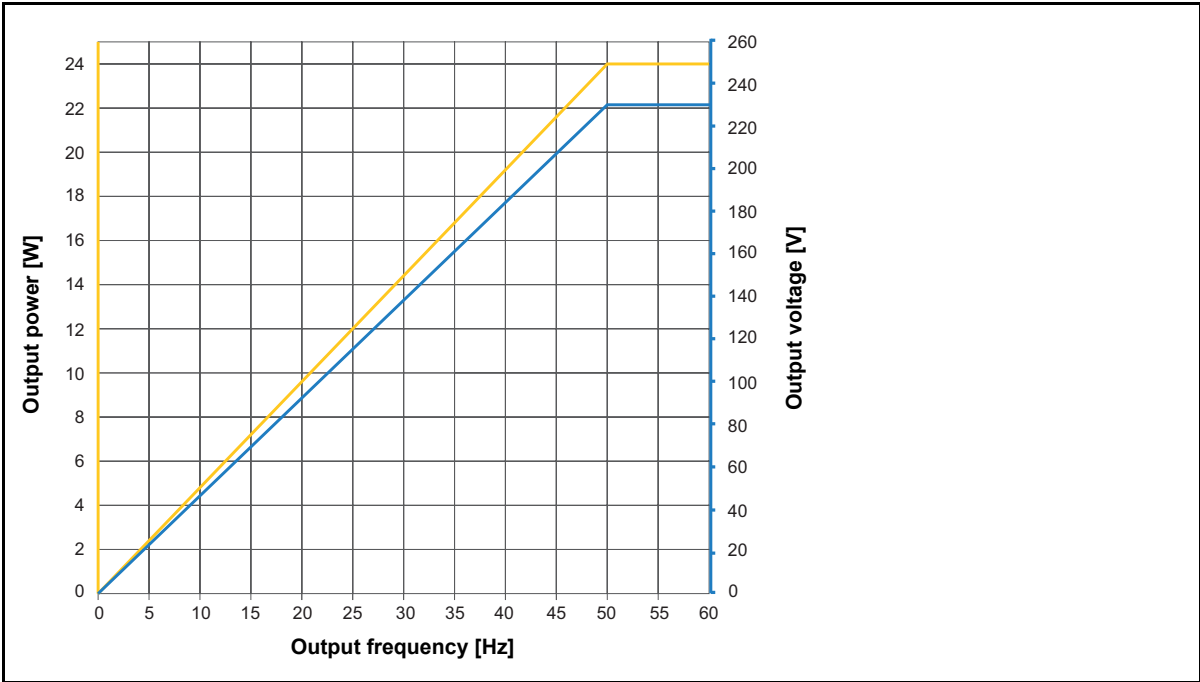

Figura 1-5: Derating of output power and output voltage 3 x 230 VRMS
3. See Figura 1-5: "Derating of output power and output voltage 3 x 230 VRMS" en la página 8